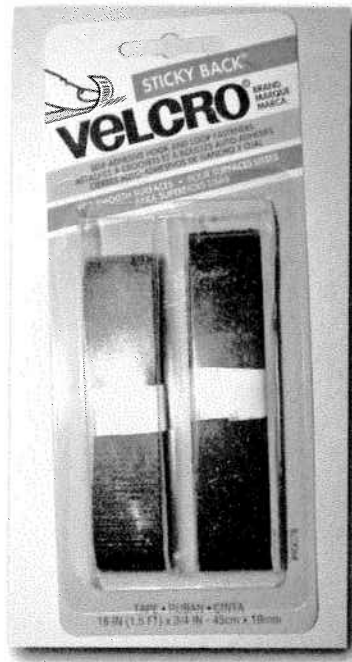

FIGURE 9-3: Velcro strips.
- Six to eight 1-foot-long Velcro® strips, as shown in Figure 9-3, half hook sides and half fuzzy sides (that's how they usually come anyway; pick them up at any hardware or home improvement store, \$6)